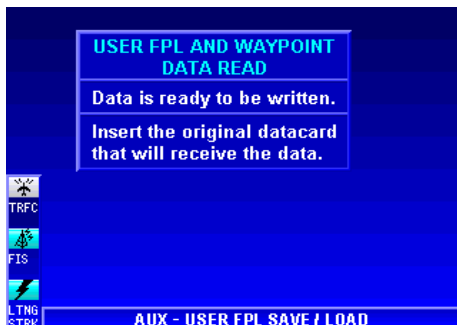

Figure 1-194
7. After the datacard is inserted, the data will be read and Figure 1-194 will be displayed indicating the data is ready to be copied.